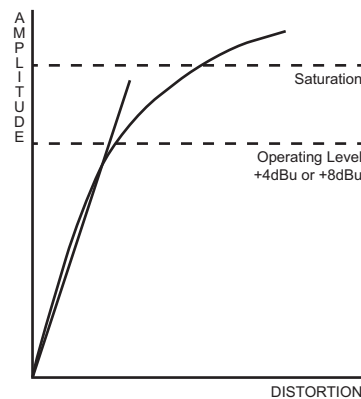
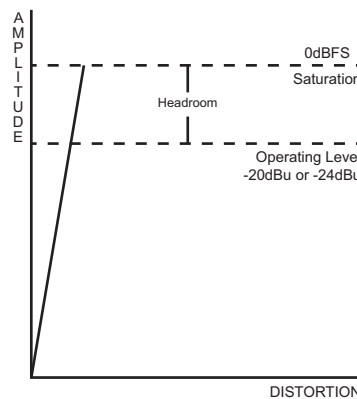

Figure 6.2 Analog Audio
Figure 6.3 Digital Audio
**Figure 6.2** and **Figure 6.3** illustrate amplitude vs. distortion for analog and digital audio equipment show that digital audio does not gradually degrade (become more distorted) as the amplitude increases.